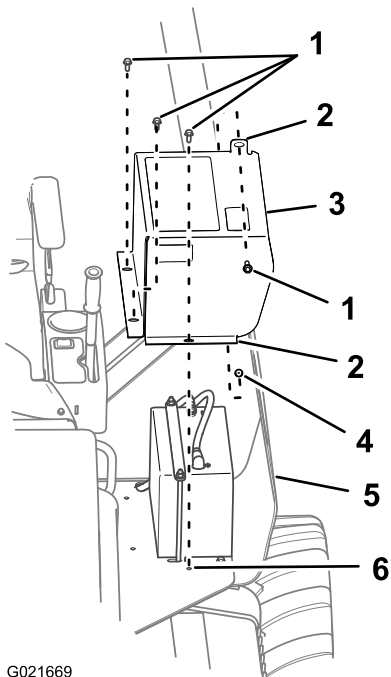

Figure 58
2. Remove the bolt that secures the battery cover to the ROPS plate (Figure 58).
3. Remove the 3 bolts that secure the battery cover to the operator platform, and remove the battery cover (Figure 58).
1. Align the holes in the mounting flanges for the battery cover with the holes in the operator platform around the battery (Figure 58).
2. Secure the battery cover to the ROPS plate with a bolt (Figure 58).
3. Secure the battery cover to the operator platform with the 3 bolts that you previously removed (Figure 58).